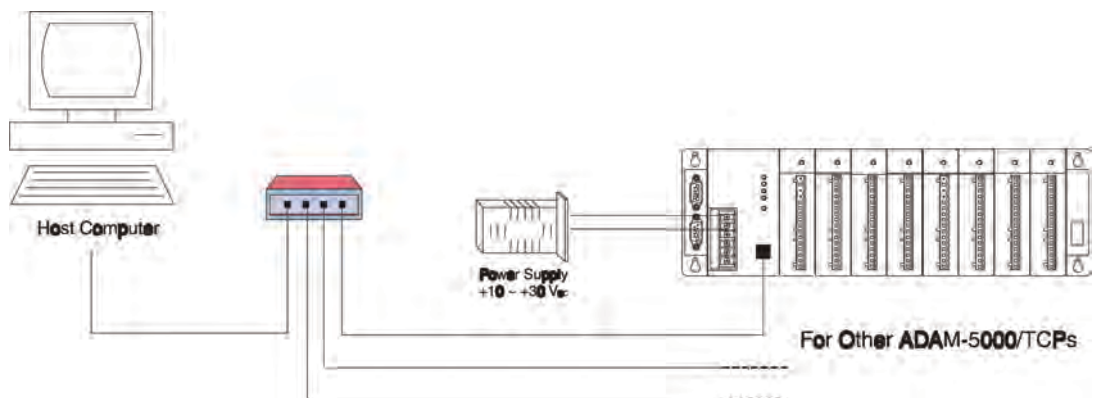

Figure 5.1 Hardware Configuration
- Power supply for ADAM-5000/TCP Series (+10 to +30 V unregulated) Make sure to prepare all of the items above, then connect the power and network wiring as figure 5-1.